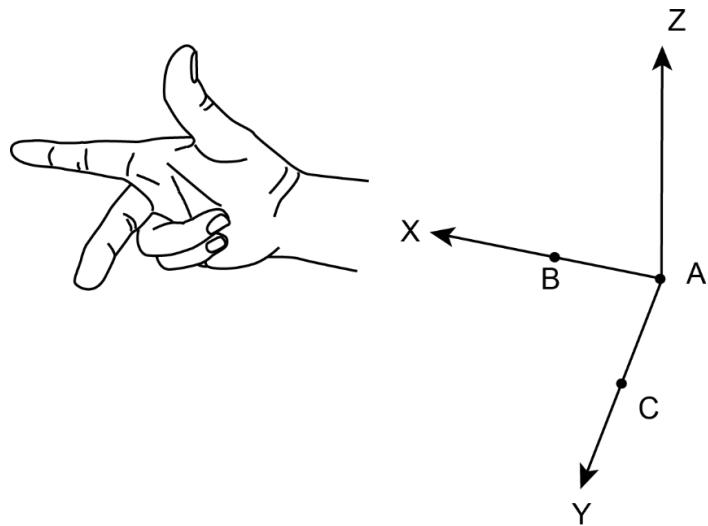

Figure 3.6 Area
- **Area:** User coordinate system is created by three-point calibration method. Move the robot to three points  $A(x_1, y_1, z_1)$ ,  $B(x_2, y_2, z_2)$ , and  $C(x_3, y_3, z_3)$ . Point A is defined as the origin and the line from point A to Point B is defined as the positive direction of X-axis. The line that point C is perpendicular to X-axis is defined as the position direction of Y-axis. And then the Z-axis can be defined based on the right-handed rule, as shown in Figure 3.6.